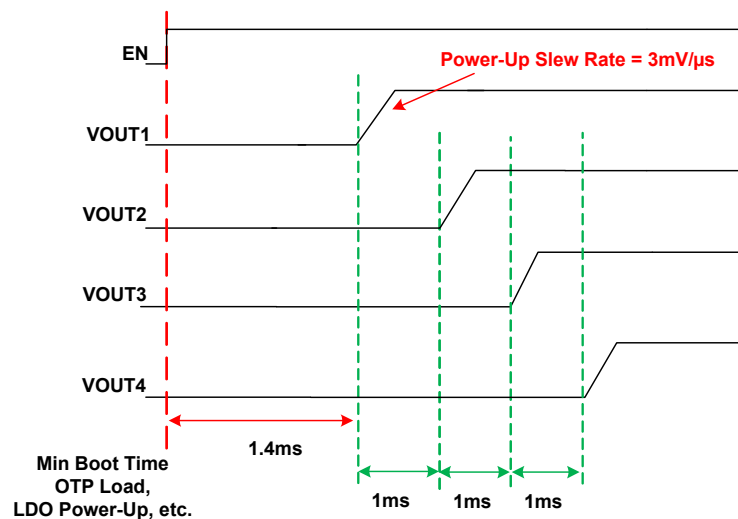

Figure 33. Master Chip Enable Power-Up Example
Figure 33 provides an example of power-up configuration. The master chip enable pin (EN) transitions from 0 to 1 and OTP is loaded for 1.4ms. After initial 1.4ms boot interval, the buck output start-up sequence begins. BUCK1\_EN\_DLY is set for 0ms, BUCK2\_EN\_DLY is set for 1ms, BUCK3\_EN\_DLY is set for 2ms, and BUCK3\_EN\_DLY is set for 3ms.